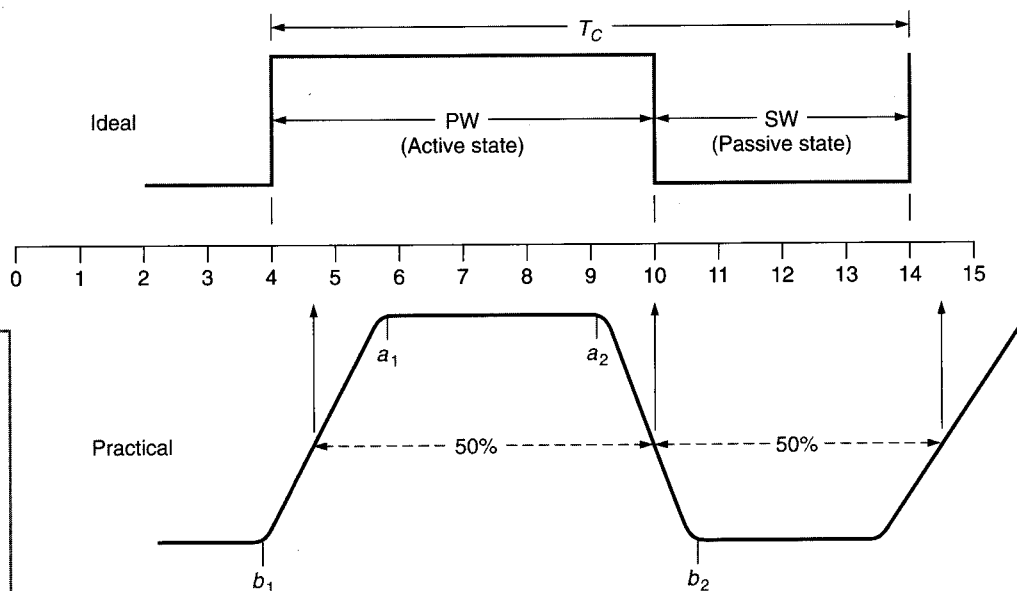
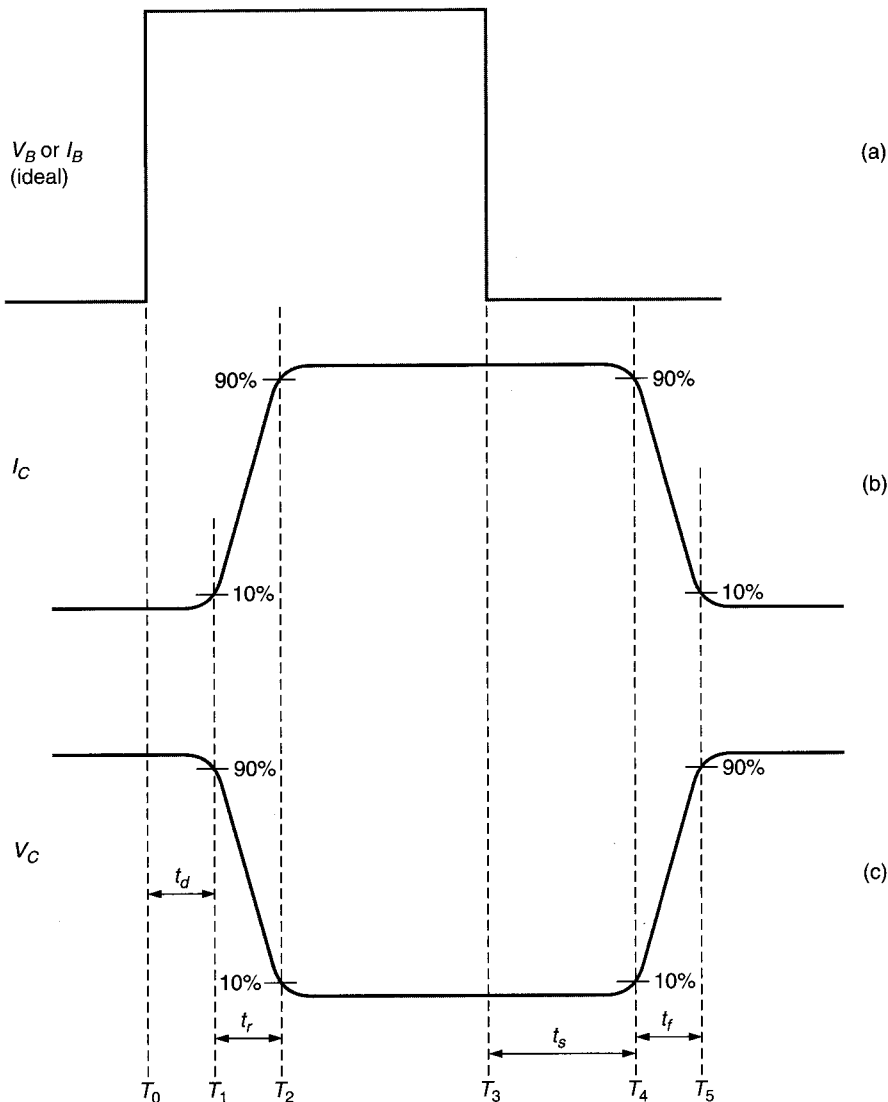

FIGURE 19.10 Measuring pulse width, space width, and cycle time.
FIGURE 19.12 The causes of propagation delay.
Before we can discuss any practical time or frequency measurements, we must define some of the terms commonly used to describe rectangular waves. We will define these terms with the help of Figure 19.10.
When discussing the *ideal* waveform, it is easy to determine the value of pulse width, space width, or cycle time. For example, take a look at the ideal waveform in Figure 19.10. The scale shown between the ideal and practical waveforms is used as a time reference. Assume (for the sake of discussion) that the scale is measuring time in microseconds ( $\mu\text{s}$ ). For the ideal waveform, it is easy to see that the value of PW is
When we wish to make the time measurements of a practical rectangular waveform, we run into a problem. You see, the transitions from low to high and from high to low are not perfectly vertical. (The reasons for this are discussed later in this section.) For example, take a look at the *practical* waveform in Figure 19.10. If we measure the PW of this waveform from  $a_1$  to  $a_2$ , its value is found to be approximately  $3.2 \mu\text{s}$ . However, if we measure the PW from  $b_1$  to  $b_2$ , its value is found to be approximately  $6.5 \mu\text{s}$ . The question here is: Where do we measure the values of PW, SW, and  $T_C$  so that everyone gets the same results?
To eliminate the problem of measurement variations, the values of PW, SW, and  $T_C$  are *always* measured at the 50% points (where the voltage is halfway between the high and low values). For example, if the practical waveform in Figure 19.10 has peak values of 0 V (low) and +5 V (high), we measure the values of PW, SW, and  $T_C$  at the +2.5 V points on the waveform. This point is illustrated further in Example 19.4.
The output from an *ideal* BJT switch would change at the exact instant that the circuit input changes, with the output resembling the ideal waveform you saw in Figure 19.10. In practice, the output from a BJT switch more closely resembles the waveforms shown in Figure 19.12. The  $V_B$  waveform represents an ideal input that changes states *instantly* at  $T_0$  and  $T_3$ . Note that this waveform can represent either  $V_B$  or  $I_B$  since they are always in phase. The  $I_C$  and  $V_C$  waveforms differ from their ideal characteristics in several respects:
There are actually *four* sources of BJT propagation delay, each measured during one of the time periods shown in Figure 19.12. The first contributor to the delay is called
**delay time ( $t_d$ ).** This is the time required for the transistor to come out of cutoff. As shown in Figure 19.12,  $t_d$  is measured between  $T_0$  and  $T_1$  on the output waveforms. In terms of  $I_C$ , the delay time is *the time required for  $I_C$  to reach 10% of its maximum value.*
**Rise time ( $t_r$ ).** is the time required for the BJT to make the transition from cutoff to saturation (in effect, the time required for the transistor to pass through its active region of operation). In Figure 19.12, rise time is measured between  $T_1$  and  $T_2$ . In terms of  $I_C$ , rise time is *the time required for  $I_C$  to rise from 10% to 90% of its maximum value.* In terms of  $V_C$ , it is *the time required for  $V_C$  to drop from 90% to 10% of its maximum value.*